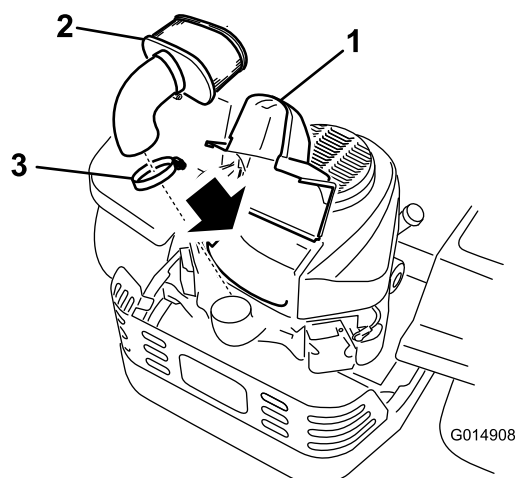

Figure 32
3. Clean around the air cleaner cover to prevent dirt from getting into the engine and causing damage. Lift the cover and remove the hose clamp securing the air cleaner assembly to the engine (Figure 32).
4. Loosen the hose clamp and remove the paper element (Figure 32).